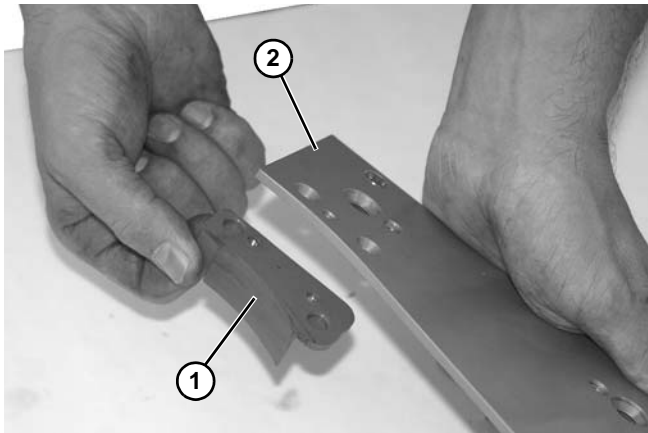

Figure 117
3. Remove lower retaining guide (**Figure 117, item 1**) from drive plate (**Figure 117, item 2**).